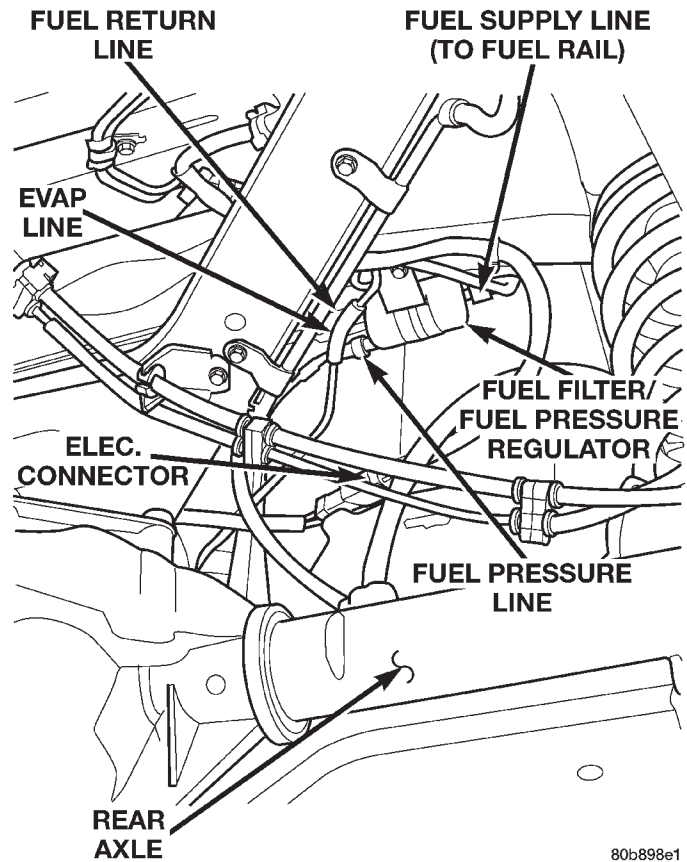

Fig. 24 Fuel Filter/Fuel Pressure Regulator Location
The combination Fuel Filter/Fuel Pressure Regulator is remotely mounted to the vehicle body near the front of the fuel tank (Fig. 24).
- (1) Perform Fuel System Pressure Release Procedure.
- (2) Disconnect negative battery cable at battery.
- (3) Raise vehicle.
- (4) Clean area around 3 filter/regulator fittings.
- (5) Disconnect fuel supply, fuel return and fuel pressure lines at filter/regulator (Fig. 24). Refer to Quick-Connect Fittings.